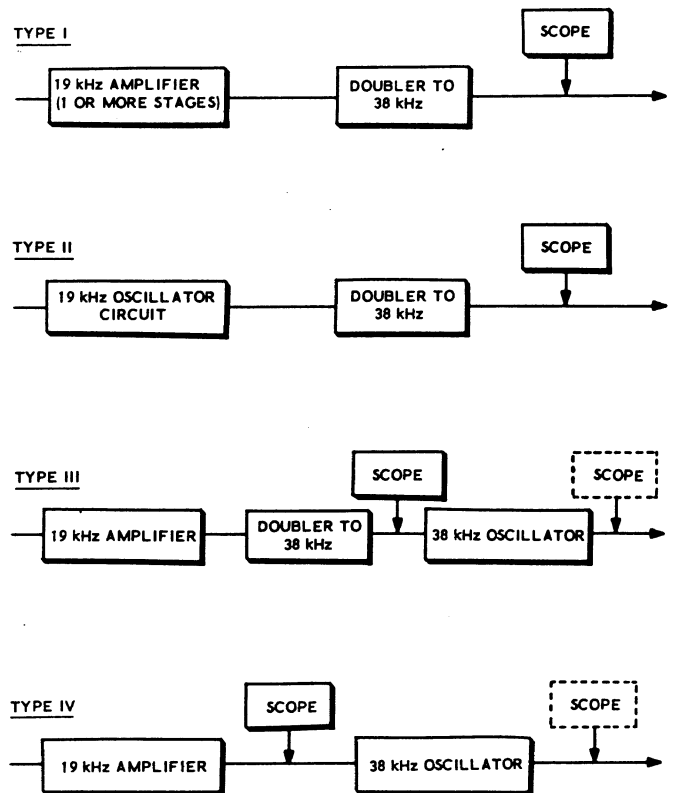

Figure 11
- ① In oscillator type circuits, the oscillator may have to be shut off in order to correctly make this adjustment. This can usually be done by shorting the grid of the oscillator to ground, or in some cases by removing the tube.
- ② Some SCA filters may be stagger-tuned. In this case, refer to appropriate manufacturer's instructions for this adjustment.
- ③ If there are separate coils for the indicator, they may be peaked at this
- ④ Observe the scope to make sure the 3 output is synchronized with the 19 sync signal, as evidenced by an amp difference of adjacent peaks, an inc in amplitude or by listening to the o
* See Figure 11.
Figure 11 shows the four different types of multiplex circuits in simplified block diagram form. Refer to this Figure and determine which of these types of multiplex circuit is in the tuner you are about to align. Then align the tuner by following the instructions in the FM Multiplex Alignment Chart. Refer also to the alignment instructions in the tuner service manual.